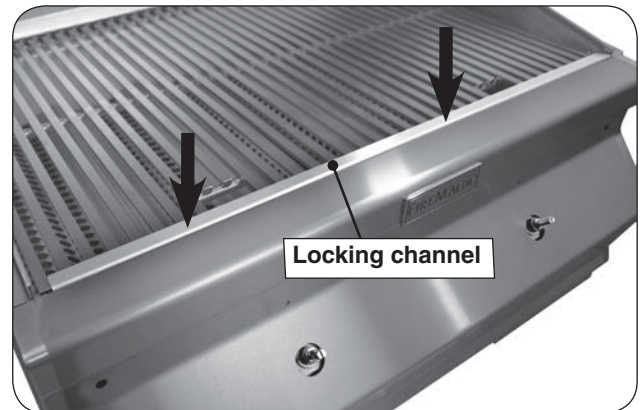

Fig. 23-2 Install cooking grid with locking channel
2. With the channel attached to the control panel, carefully reinstall the control panel back onto the grill. Ensure the locking channel is laying flat on the cooking grids. See Fig. 23-2.